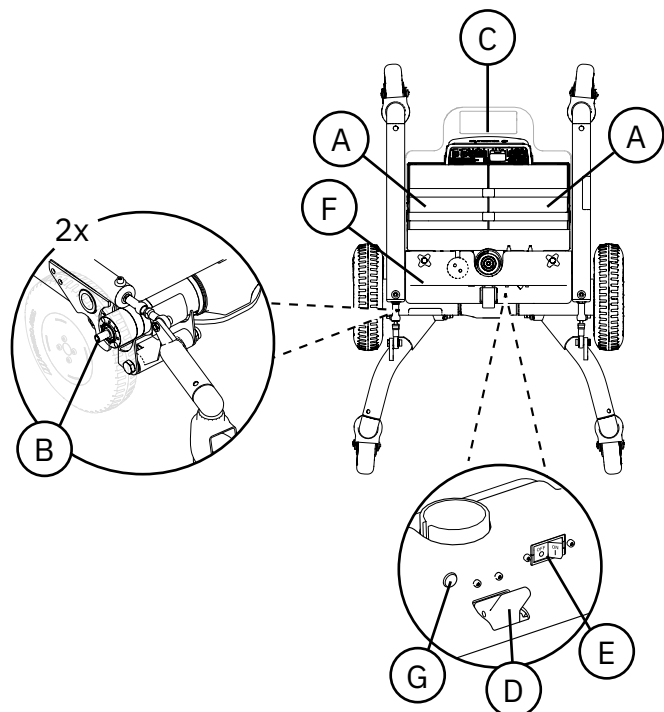

Figure 5.57. Complete LiNX for REAL 6100 PLUS chassis.
A chassis with batteries (A), drive motors (B), power module (C), brake application and release controls (D), and circuit breaker with ON/OFF function (E). The front cover (F) has a cover plug (G), see Figure 5.57.